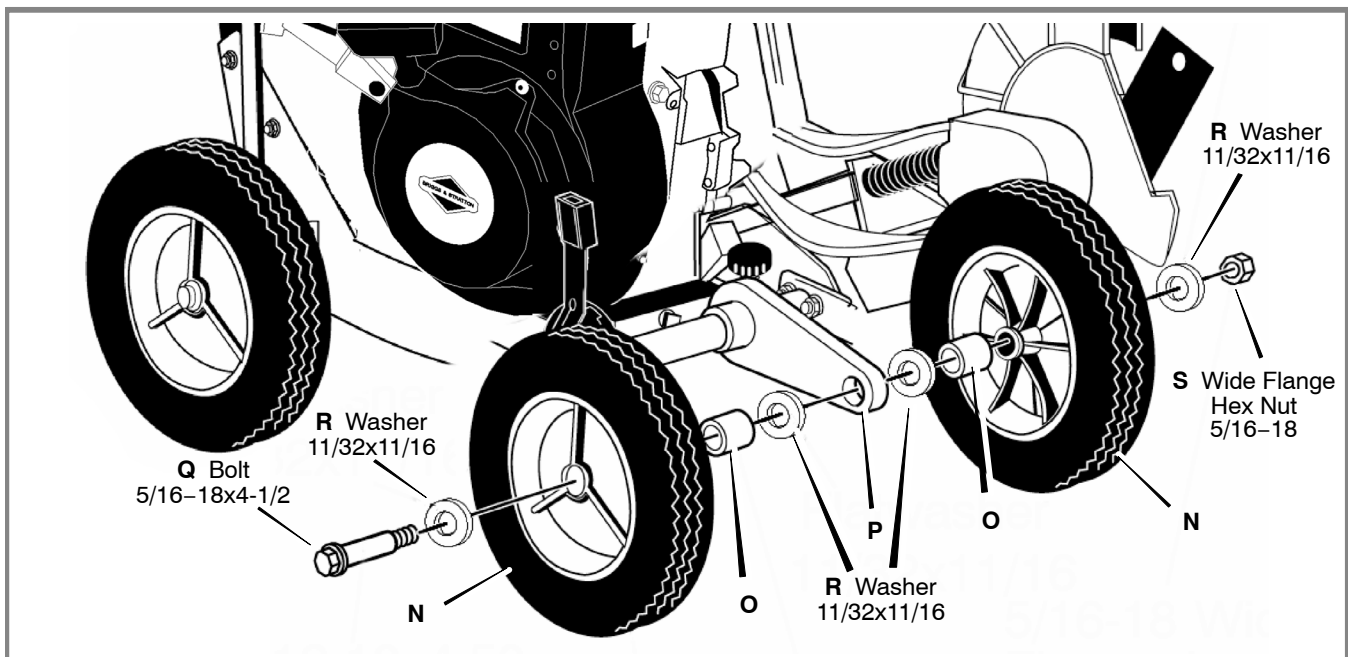

Figure 6: Front Wheels
- 4 Attach the front wheels (N) and long spacers (O) to the front wheel arm (P) with the fasteners (Q, R, S) shown in Figure 6.